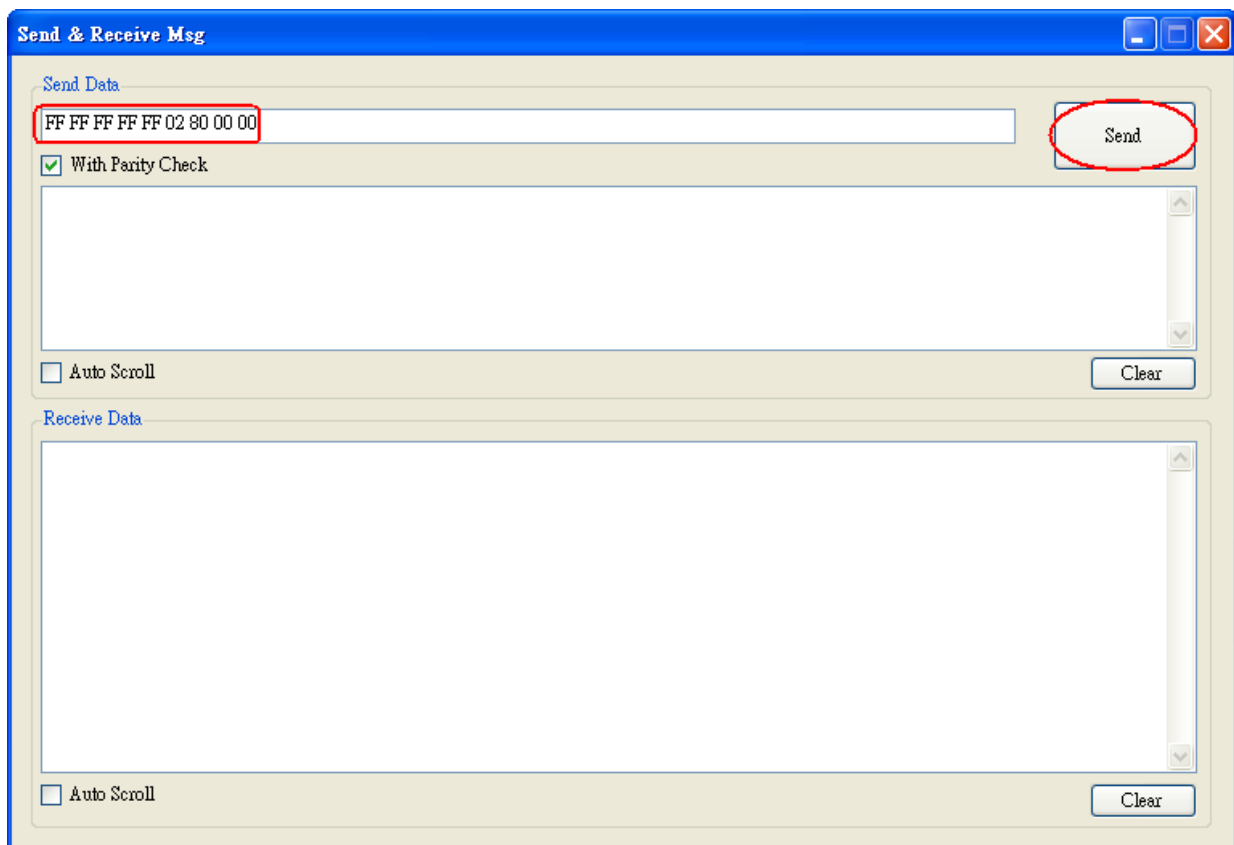

Figure 4-11: Send HART Command
- (2) Please type the HART command in the “Send Data” filed and click “Send” button to send out the HART command like Figure 4-11.